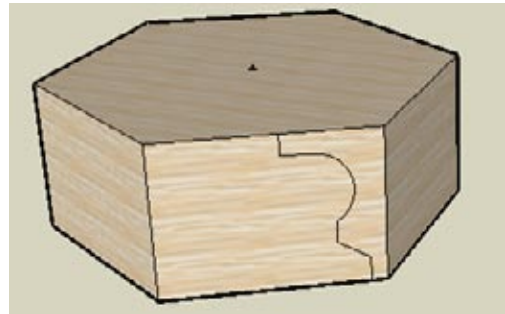

Figure 4-24
2. Draw a rounding face on one vertical face (Figure 4-24).